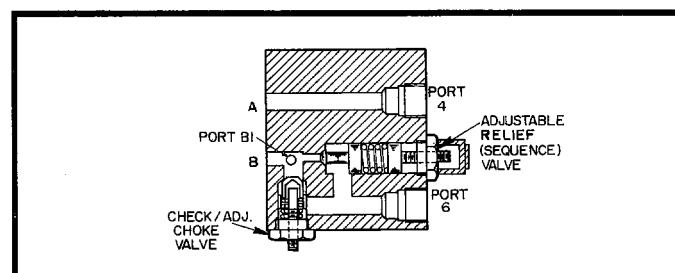

Figure 6. Type "R" Resistance Control (508737D).
**3. Resistance Control.** Refer to figures 6, 2 and 3. An integral sequence type relief valve assembly is connected to Port 6. When system pressure (such as in "kicker cylinders") builds up at Port 6 to an adjustable preset value (300 to 1500 psi - 20 to 103 bar), the sequence valve opens (and remains open) porting fluid through Port "B" to the operating ram and closes the prefill plunger. When pressure at Port 6 is reduced, pilot pressure applied through Port 4 to Port "A" will open the prefill valve. Opening rate can be adjusted by the integral check/choke assembly which meters fluid flowing back through Port "B" to Port 6. NOTE: To open the prefill valve, pressure generated at Port "B" (when pressure is applied to Port 4) must be greater than the pressure remaining at Port 6.